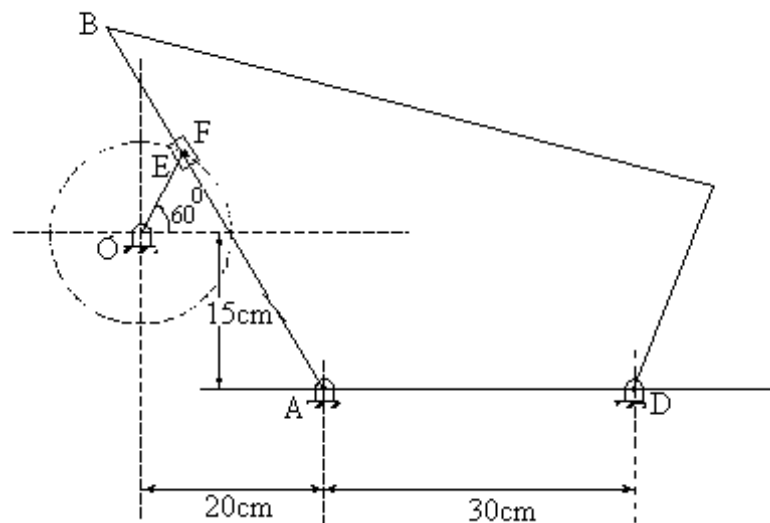

Figure 3
3. The mechanism shown in Figure 3 the length of the various links are, OE = 15cm, AB = 40cm, BC = 60cm and CD = 20cm. The crank rotates at 70rpm. Determine